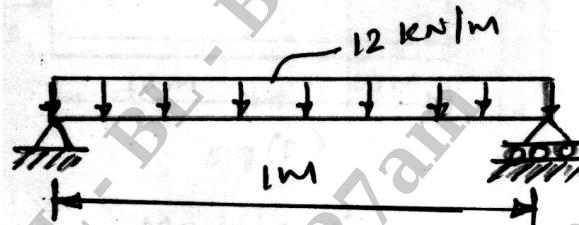

Fig Q5(b)
b. Fig Q5(b), shows a simply supported beam subjected to a uniformly distributed load. Obtain the maximum deflection. Take $E = 200 \text{ GPa}$, $I = 2 \times 10^6 \text{ mm}^4$.